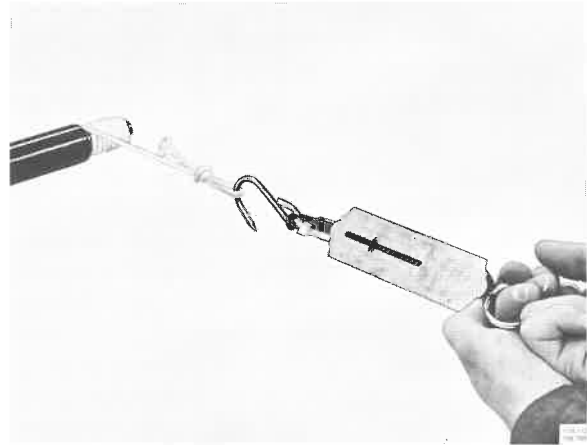

Fig. 64-22. Checking the pre-load
3. Wind a cord a couple of times round the steering column and attach a spring balance to the end of the cord, see Fig. 64-22. Rotate the steering column and read off the force on the bearings, which should be between 2.5-5.5 kp (5.5-12 lbf). With excessive pre-load, add shims, and with too little pre-load, remove some.